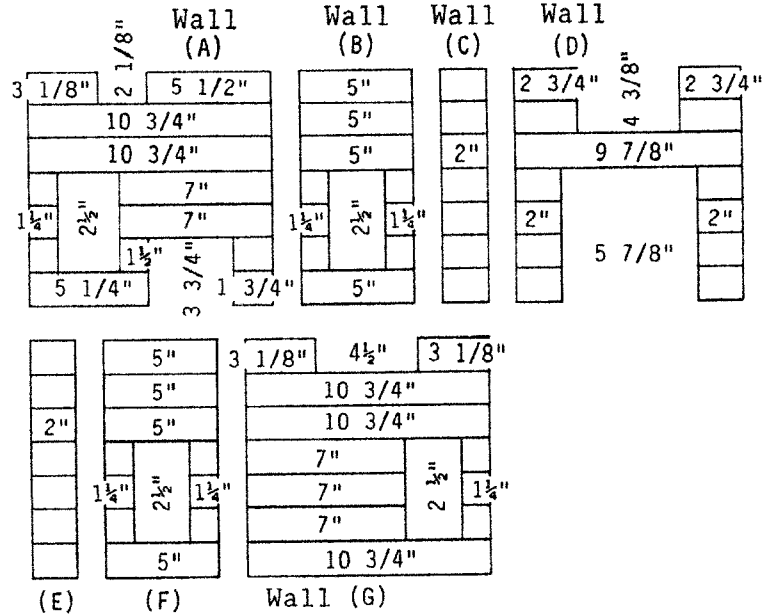

Figure 4
2. Pre-assemble the siding without glue. Lay the pieces flat side down, as shown in Figure 4. The tongue is on the top edge of each board.